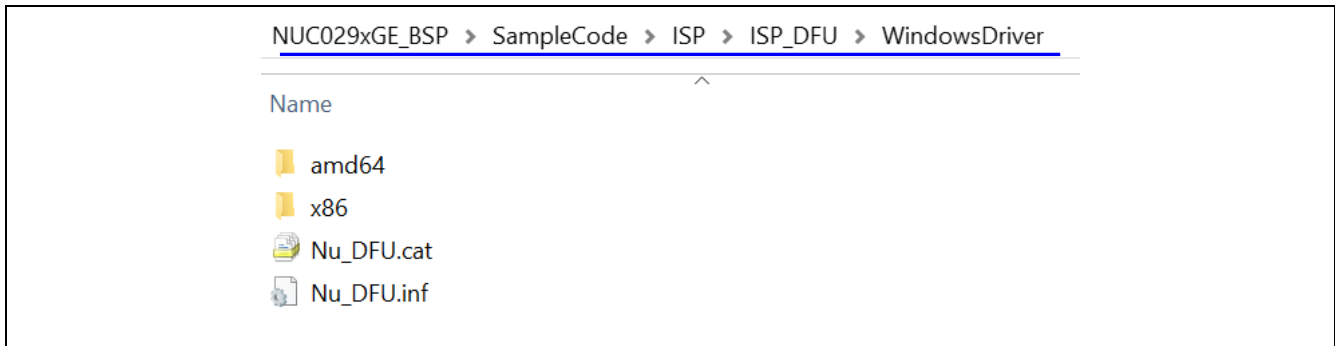

Figure 5-29 Nu_DFU Device Driver File Path
3. After entering bootloader, it will be recognized as a Nu_DFU device, and then user can release SW1 button. If Nu_DFU device cannot be recognized, user needs to install Nu_DFU device driver. The file path is shown in Figure 5-29.